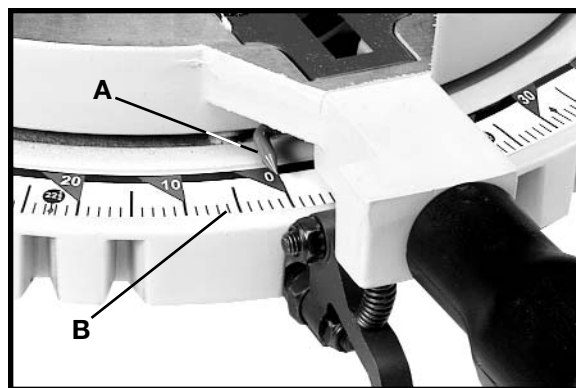

Fig. 14
A pointer (A) Fig. 14 is supplied to indicate the actual angle of cut. Each line on the scale (B) represents 1 degree. When the pointer is moved from one line to the next on the scale, the angle of cut is changed by 1 degree.